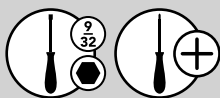

Fig. 1
Use the M6.3 x 11 Euro Screw (B) to install the unit. (See Fig. 1).